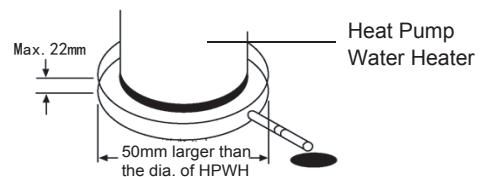

Fig.5-2
- Probably may cause water leakage because of blockage during the drainage, pit is suggested to use a water collector as instruction in Fig 5-2.